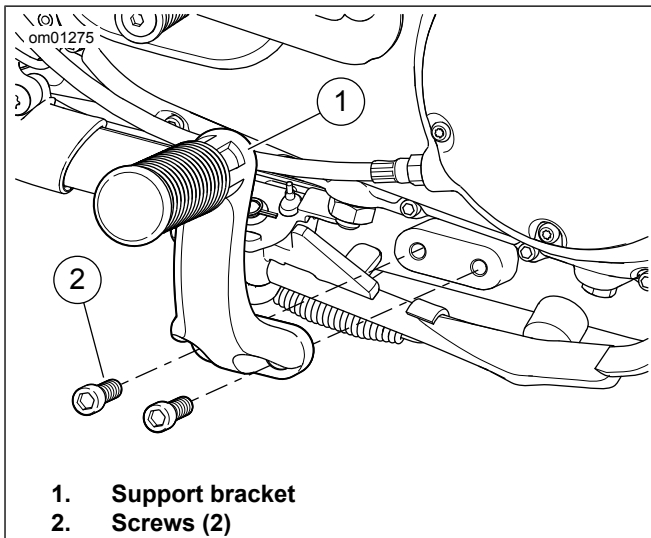

Figure 48. Mid-Mount Rider Footrest Assembly
4. **XL models with mid-mount controls:** See Figure 48. Remove screws and detach the rider footrest support bracket from the left side of the vehicle.
9. **XL models with mid-mount controls:** See Figure 48. Remove screws (2) and detach the rider footrest support bracket (1) from the left side of the vehicle.